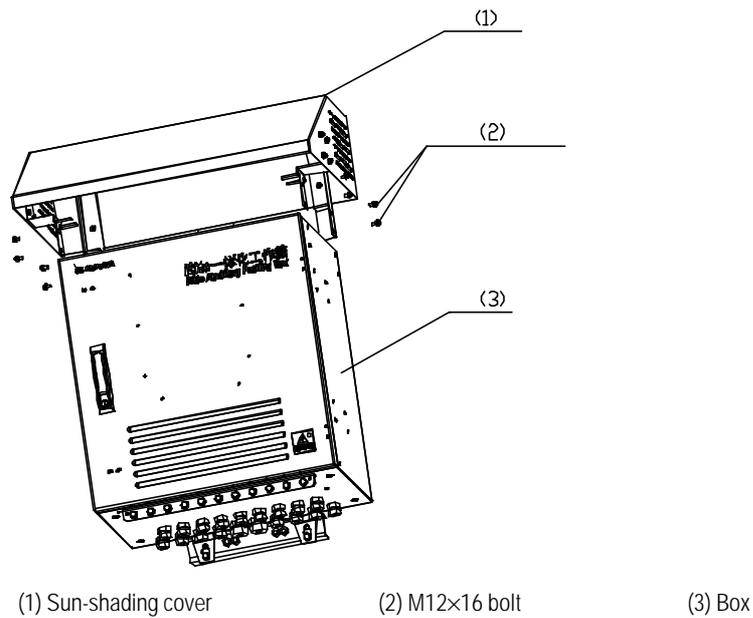

Figure A-4 Installing sun-shading cover
- 7) The installation of sun-shading cover is shown in Figure A-4. It is fixed with M12x16 bolt.